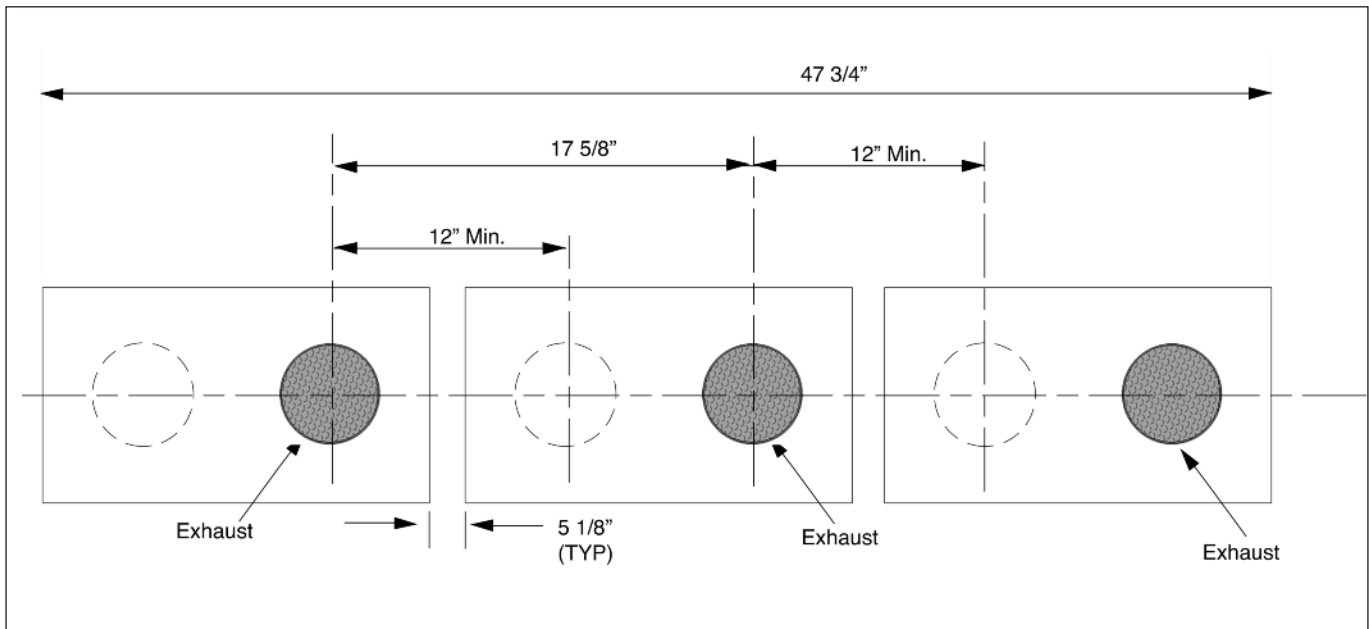

**Fig. 5A: Multiple Vertical Vent Installation 3 Inch Vent System**
3. The Prestige Gas Vent Termination is suitable for PVC or CPVC vent systems and may be installed in a horizontal or vertical configuration as shown in Figs. 5A through 6B.